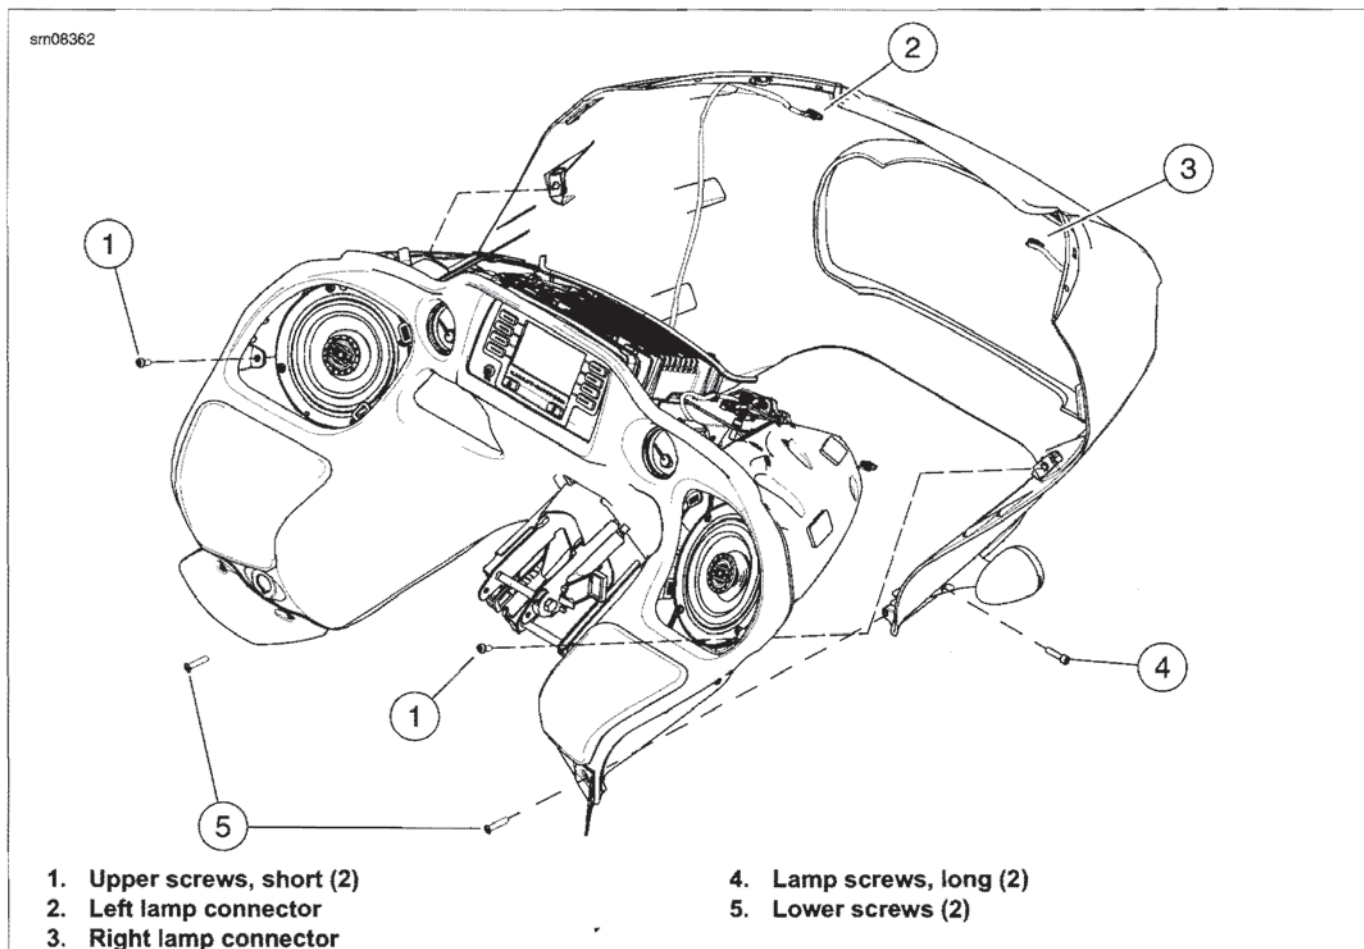

Figure 2-167. Outer Fairing Screws
5. See Figure 2-167. Separate lamp connectors (2, 3).
6. Remove two upper screws (1).
7. Remove two lamp screws (4).
8. Remove two lower screws (5).
3. See Figure 2-167. Start two lamp screws (4).
4. Start two screws (5).
5. Start two screws (1).
6. Tighten upper screws (1) to 20-30 **in-lbs** (2.3-3.4 Nm).
7. Tighten lower screws (5) to 8-15 **in-lbs** (0.9-1.7 Nm).
8. Tighten lamp screws (4) to 48-60 **in-lbs** (5.4-6.8 Nm).
- item 4 removing the left and right speaker grilles**
- b. From above, reach down into speaker area. Push on tab to disengage upper retainer (1);**
- c. Carefully pull near lower retainer (1) to disengage;**
- d. Remove grille for access to upper screws Fig. 2-167**
- 1. Retainer (2)**